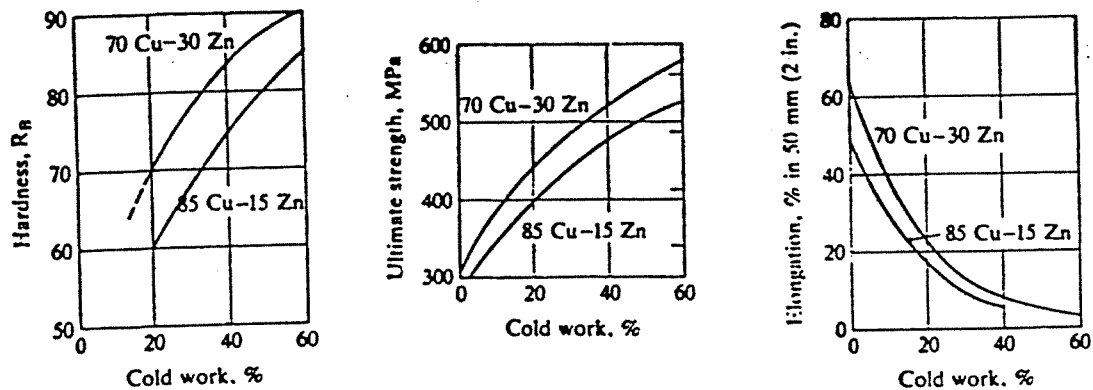

Fig 1 Effect of Cold Working on Mechanical Properties of Brasses
4. (a) Fig 1 shows the effect of cold working on the mechanical properties of brasses. A 50 mm diameter bar of 85%Cu-15%Zn brass is to be cold drawn to 12.5 mm diameter. Suggest a procedure to be followed if the mechanical properties to be obtained are tensile strength >415 MPa and ductility >10% elongation.